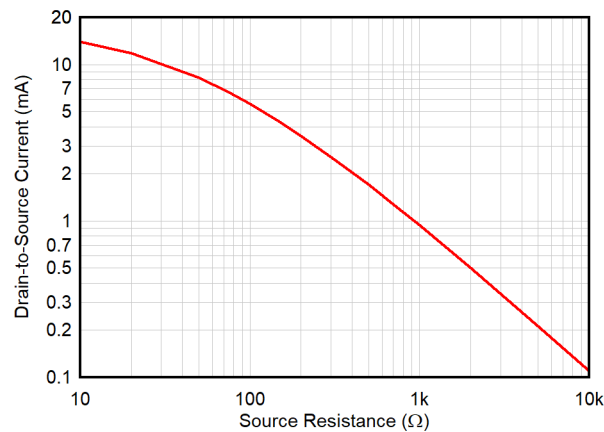

Figure 9-4. Drain-to-Source Current vs R_S , $V_{DS} = 5\text{ V}$
performance. The JFE2140, however, delivers significantly lower noise performance than most operational amplifiers at the same current consumption. The bias current (I_{DS}) is set by the value of the source resistor, R_S , and the threshold voltage, V_T , of the JFE2140. For JFETs, this threshold voltage is equivalent to the gate-to-source cutoff voltage, V_{GSC} . A graph showing nominal I_{DS} vs R_S is shown in Figure 9-4.
R_{S2}	Bias-current setting resistor. This resistor, along with R_{S1} , determine the bias current when using resistive biasing (see Figure 9-4). Be aware that both R_{S1} and R_{S2} resistance directly impact noise performance.
- The bias current is set by selecting the desired bias current and noise tradeoff (see Figure 6-16). To set the bias current point, adjust the source resistance according to Figure 9-4.